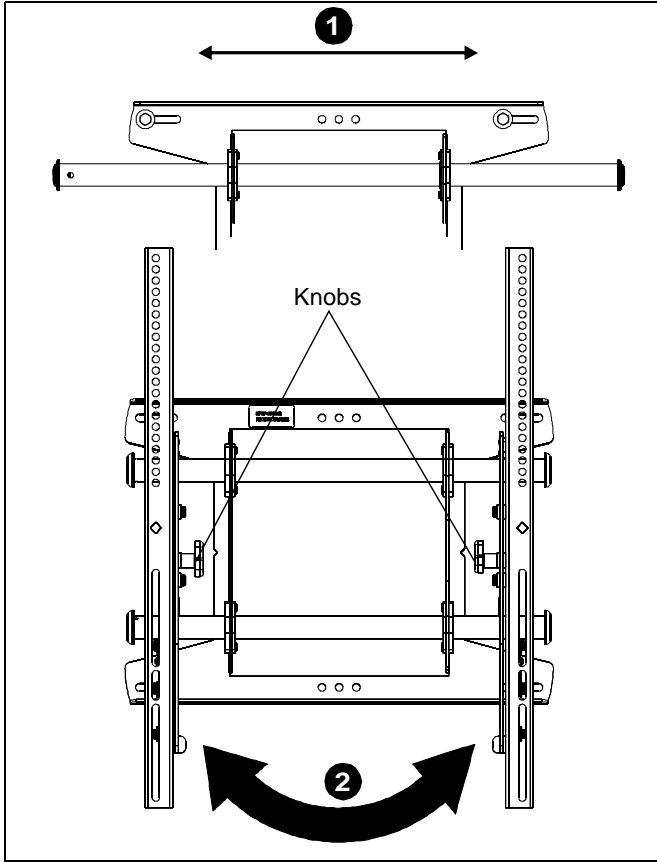

Figure 6
1. The wall bracket may be adjusted side to side at the points of attachment. (See Figure 6)
2. The location of the left and right upright brackets may be switched, with the knobs on the MTAP upright brackets facing the inside of the mount. (See Figure 6)